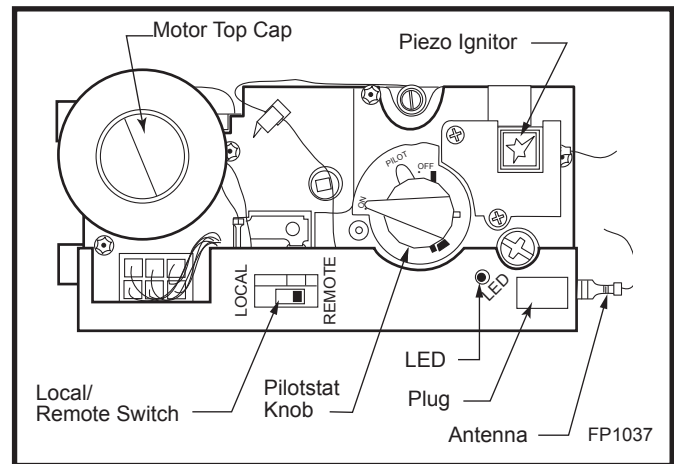

Fig. 82 Comfort control valve.
3. Remove and replace plug on lower right hand side of the valve; Red for LP and blue for NG. (Fig. 82)